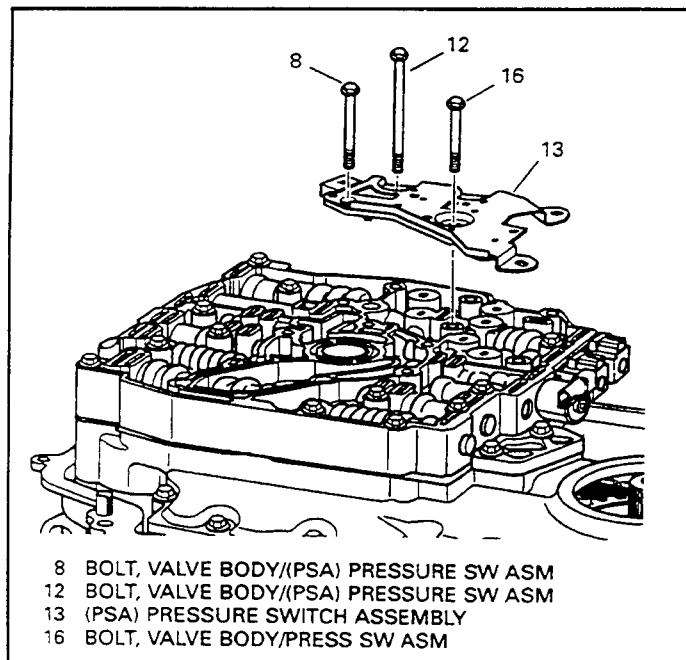

Figure 177
22. Install the pressure switch assembly (13) onto transaxle valve body as shown in Figure 177.